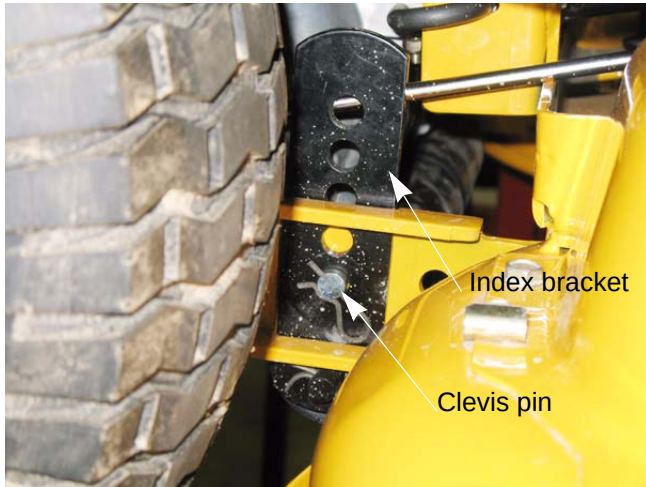

Figure 8.15
- D While supporting the roller assembly, remove clevis pin and withdraw the clevis pins from both of the roller index brackets. See Figure 8.15.